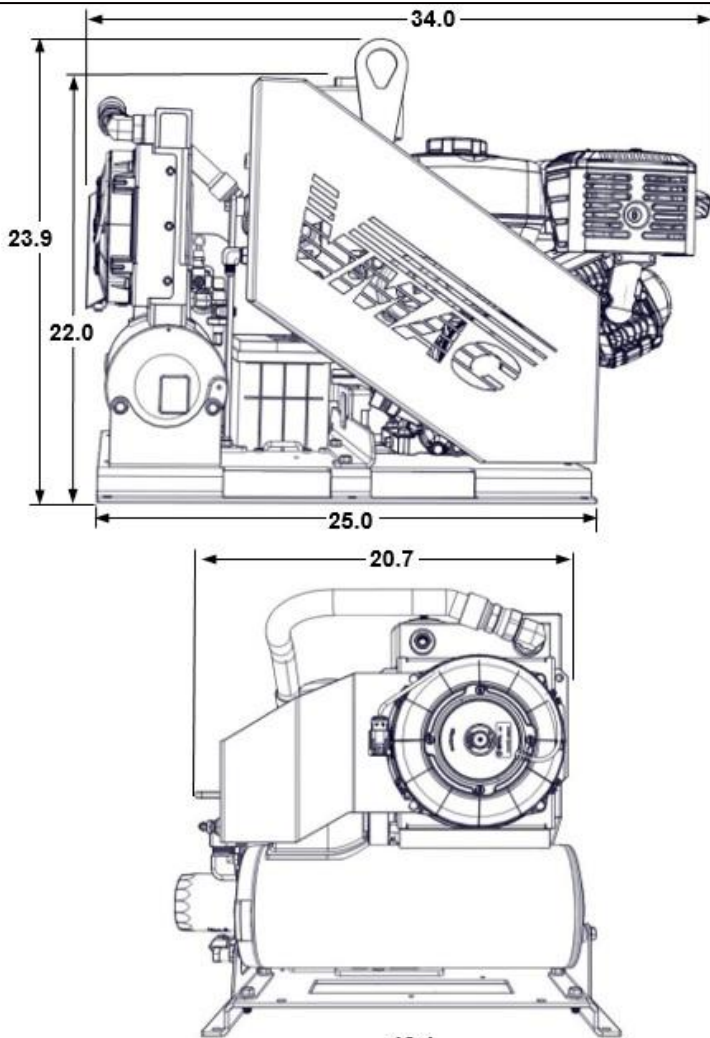

Figure 4 — External dimensions
- Locate a suitable mounting position for the Gas Engine Driven 30 CFM Air Compressor. Place the unit in its intended location and check for clearances to any other objects (Figure 4).